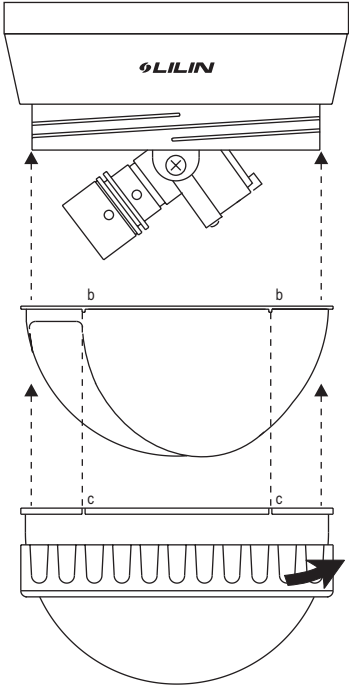

FIG. 5
5. Put on the inside cover first, and followed by put on the dome cover. Then tighten the fix ring(FIG.5).